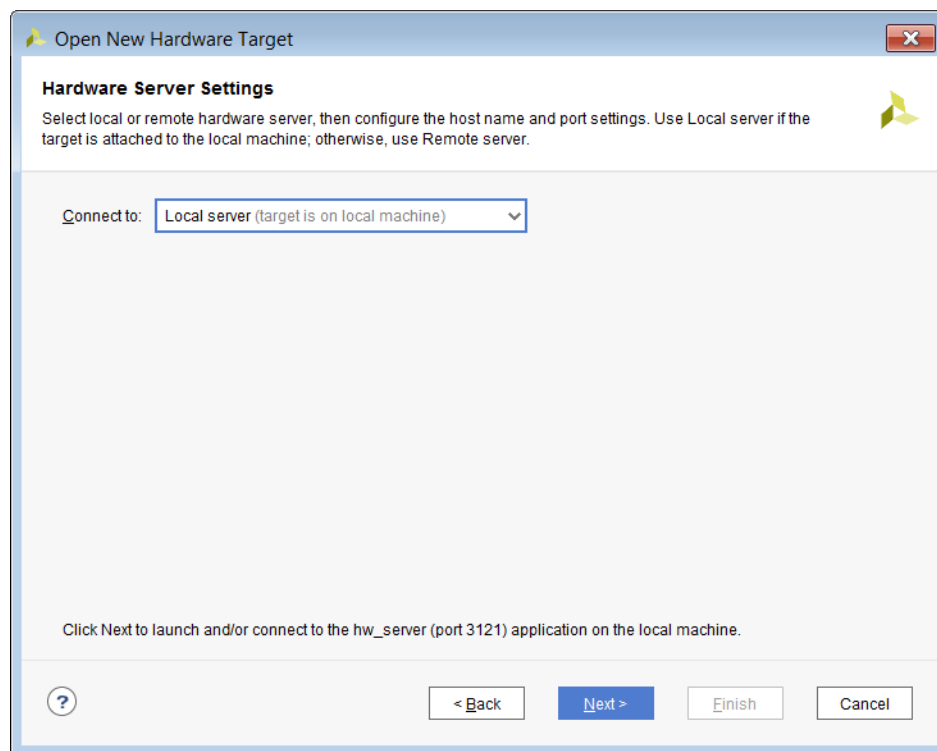

Figure 4-3: Using a Local Hardware Server
- Local server: Use this setting if your hardware target is connected to the same machine on which you are running the Vivado Lab Edition or Vivado IDE (See Figure 4-3). The